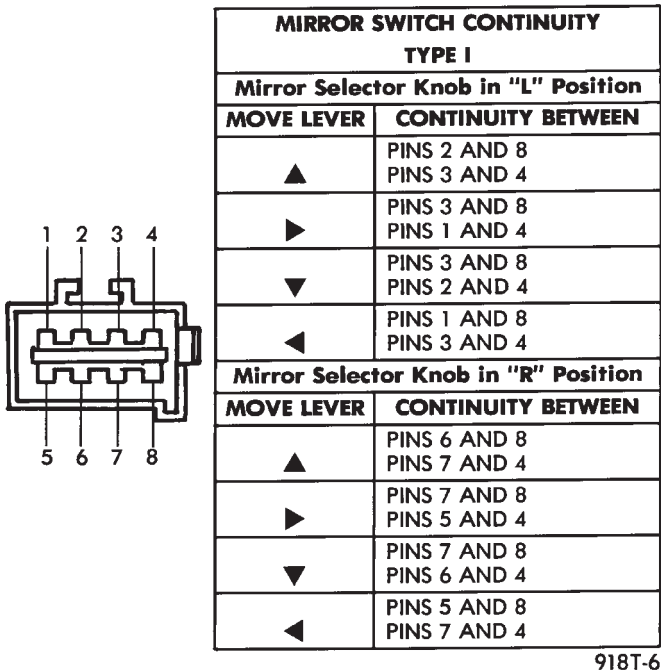

Fig. 6 Type I Mirror Switch Test
(1) Remove power mirror switch from mounting position.
(2) Disconnect wiring harness at switch connector.
(3) Using an ohmmeter, test for continuity between the terminals of the switch as shown in the Mirror Switch Continuity for appropriate switch style (Fig. 6 through 8).